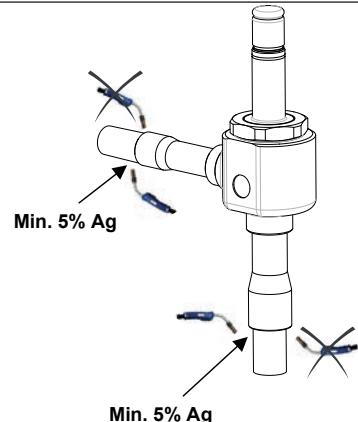

Fig. 2.
- Make sure that during the welding process, the coil, O-rings, protective tube, and label are not installed. Check the condition of the O-rings before installation. During this process cover the valve with a wet rag and hold the flame away from the body (see Fig. 2).
- Durante questo processo proteggere il corpo valvola con uno straccio bagnato ed evitare che la fiamma lo investa direttamente (vedi Fig. 2).